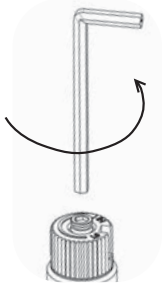

Fig.2
- 11) Insert a 5/32" or 4mm Allen wrench into the hexagonal key-way of the screw (Fig. 2), rotate it counter-clockwise until it is free and extract it.